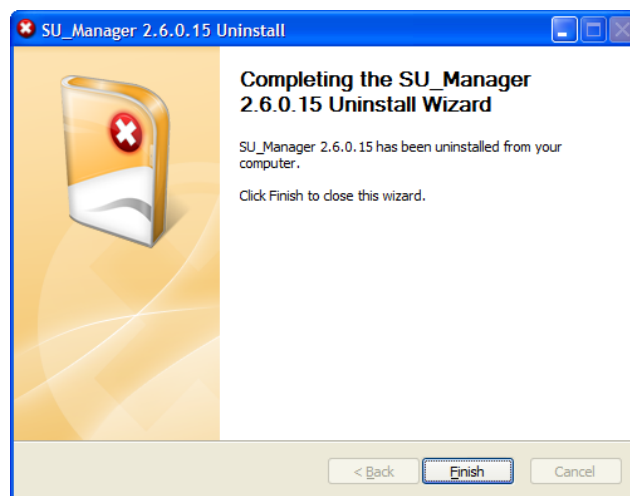

Figure 2-38: Completing the SU_Manager Uninstall
9. In the *Completing the SU_Manager Uninstall Wizard* window shown in Figure 2-38, click **Finish**.